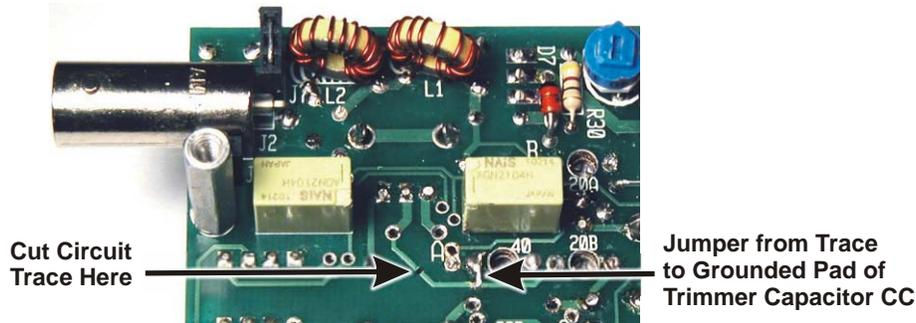

Figure 2. Modifying Trace From Capacitor CB.
- Turn the KX1 PCB over and cut the trace from CB to C27/R1 as shown in Figure 2. Use a sharp hobby knife and cut across the trace several times as needed to cut through the metal.
- Scrape off the green coating and tin a short length of the trace adjacent to the pad for trimmer capacitor CC. Use a cut lead to form a short jumper between the trace and the grounded end of CC as shown in Figure 2.
- Bend a discarded component lead into a “U” shape and insert it into J7 pins 1 and 3. J7 is the 3-pin connector adjacent to antenna jack J2. It is visible with the jumper in place at the top left corner of Figure 2. This jumper completes the antenna circuit when the optional KXAT1 ATU is not installed.